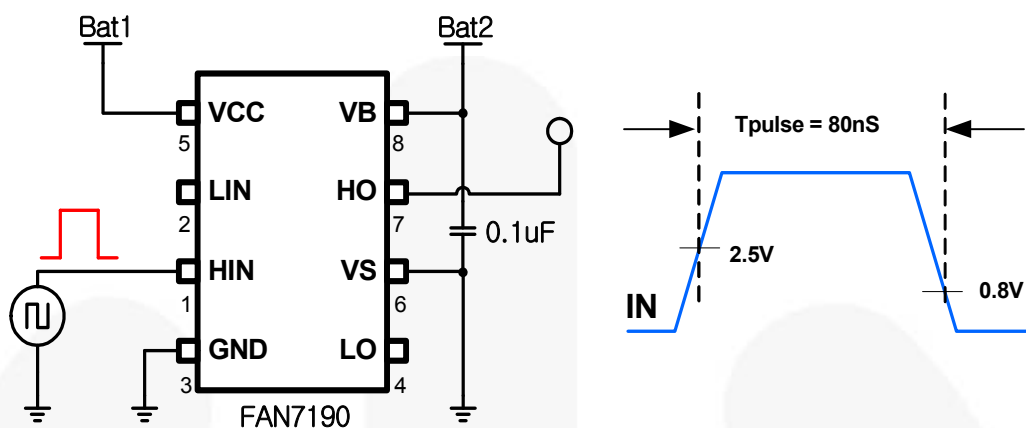

Figure 28. Short Pulse Width Test Circuit and Pulse Width Waveform
4. Guaranteed by design. Refer to Figure 28,29 and 30 on page 11